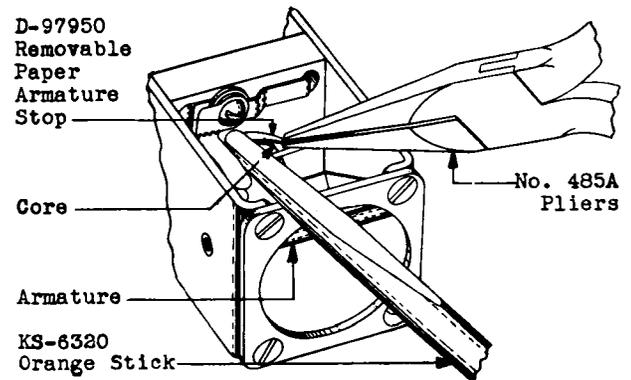

Fig. 5 - Placing Armature Stop on Core
- (1) Press with the thumb and forefinger of one hand on the papered ends of the removable paper stop until the metal portion is bowed sufficiently so that when the pressure is released, there is approximately 1/8 inch clearance between one side of the bronze strip and the single thickness of the separator.
- (2) Grasp the right-hand end of the metal part of the separator in the tips of the jaws of the No. 485A pliers, and place the armature stop in position on top of the core, so that the bronze strip rests on the core and the single thickness of the separator extends below the top edge of the core.
- (3) Using the KS-6320 orange stick applied to the left-hand end of the stop, hold the stop in this position as shown in Fig. 5.